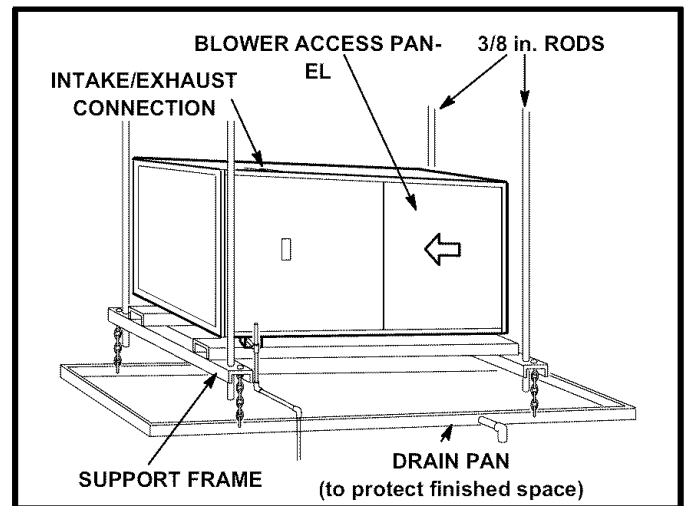
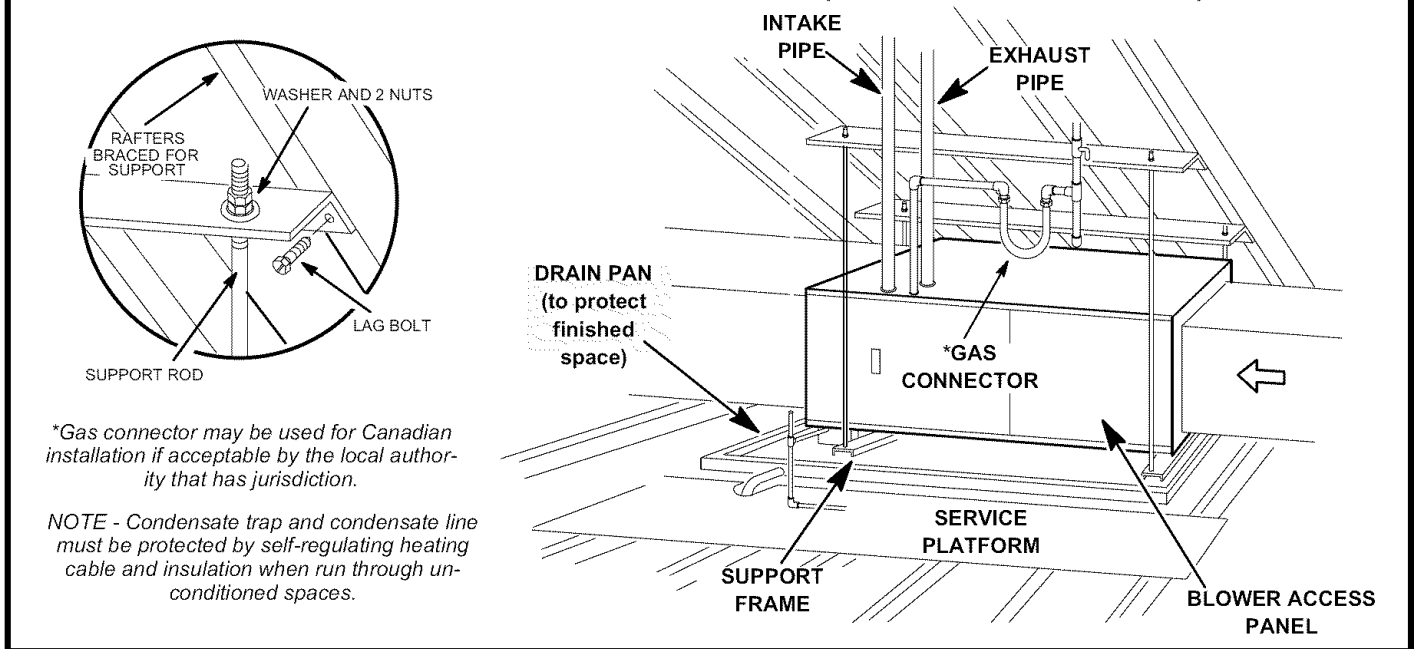

FIGURE 17
FIGURE 18
This furnace may be installed in either an attic or a crawl-space. The G51MP may also be installed as a unit heater. Either suspend the furnace from roof rafters or floor joists, as shown in figure 17, or install the furnace on a platform, as shown in figure 18. The unit must be supported at both ends and beneath the blower deck to prevent sagging.
- 5 - Mount unit on support frame as shown in figure 17. Unit must be level to ensure proper coil drainage.
- 7 - Hang drain pan below support frame as shown in figure 17. Leave 5-1/2 inches for service clearance below unit for condensate trap.